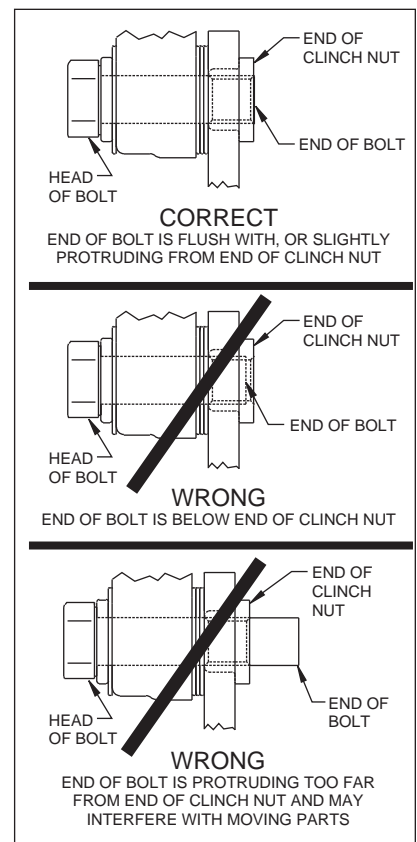

Figure 4.
- Align the correct hole pattern in the hat (2) with the stud pattern on the axle flange. **NOTE:** Some OEM and after market axles come with stud sizes larger than 0.50" diameter. Verify stud size and have a qualified machine shop drill the hats to the correct size, if necessary. Slide the hat/rotor assembly (2 and 3) over the wheel studs and against the axle flange face.
- NOTE:** Please reference the caution statement at the beginning of the assembly instructions. WITH THE BLEED SCREWS POINTING UP, mount one of the two calipers (7) over the rotor (3) and onto the caliper mounting bracket (1) using washers (8) and mounting bolts (9). View the rotor through the top opening of the caliper. The rotor should be aligned in the center of the caliper. If not, adjust the caliper by using 0.032 inch shims (10) by placing them between the caliper mounting bracket (1) and the caliper (7). Add as many shim washers (10) as necessary to achieve the correct alignment. **NOTE:** The end of the bolt must be flush with or slightly protruding from the head of the clinch nut. See Figure 4. Place spare shims (10) between washer and caliper mounting ear to achieve the proper mounting fastener configuration. Always use the same amount of shims on both the top and bottom caliper mounting bolts (9). Apply red Loctite® 271 to the mounting bolt threads (9), torque to 30 ft-lb. Safety wire the caliper mounting bolts (9). Repeat this procedure again for the second caliper.
- Position the Wilwood disc brake pads (11) into the calipers (7) and secure in place with cotter pins (12). Steel backing plate side of brake pad should face the caliper pistons.